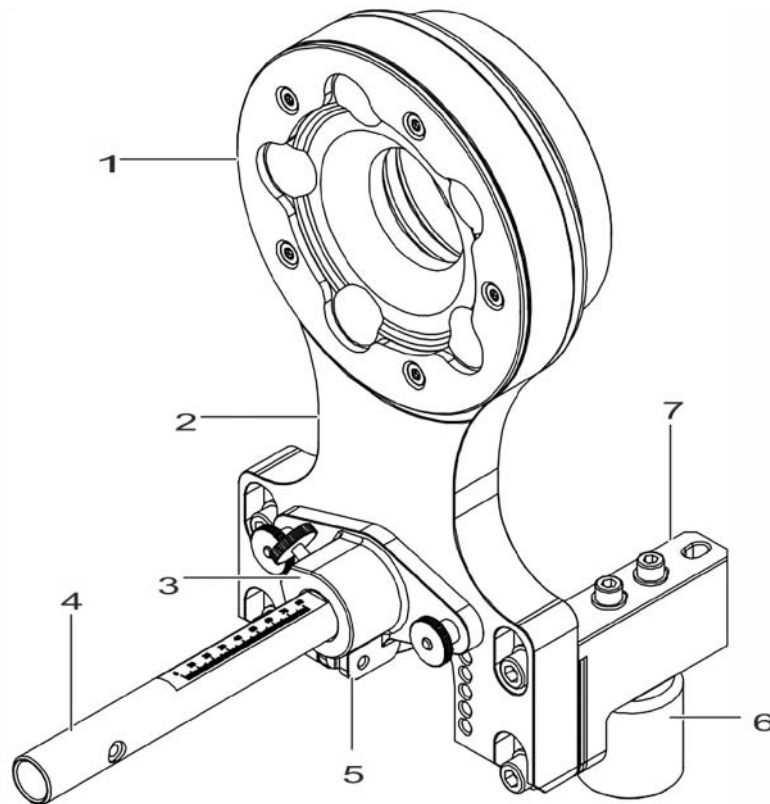

Figure 41
- ⇒ **Figure 41 -1-** – Center hub
- ⇒ **Figure 41 -2-** – Measuring wheel
- ⇒ **Figure 41 -3-** – Laser shaft scaling mounting
- ⇒ **Figure 41 -4-** – Laser shaft with scaling
- ⇒ **Figure 41 -5-** – Track gauge fence mounting
- ⇒ **Figure 41 -6-** – Heavy-duty ball roller
- ⇒ **Figure 41 -7-** – L-angle foot